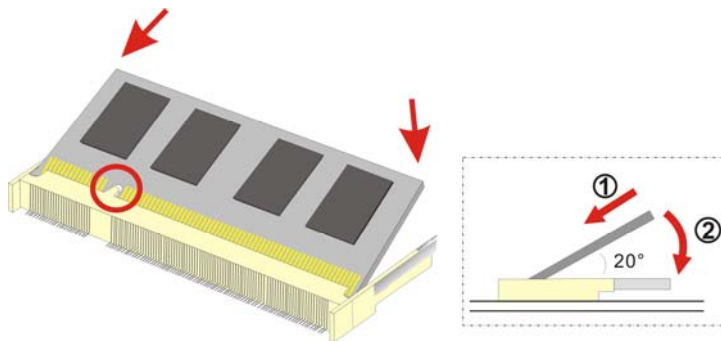

Figure 4-2: SO-DIMM Module Installation
- Step 7:** Install the new memory module by pushing it into the socket at an angle (**Figure 4-2**).
- Step 8:** Gently pull the spring retainer clips of the SO-DIMM socket out and push the rear of the memory module down (**Figure 4-2**).